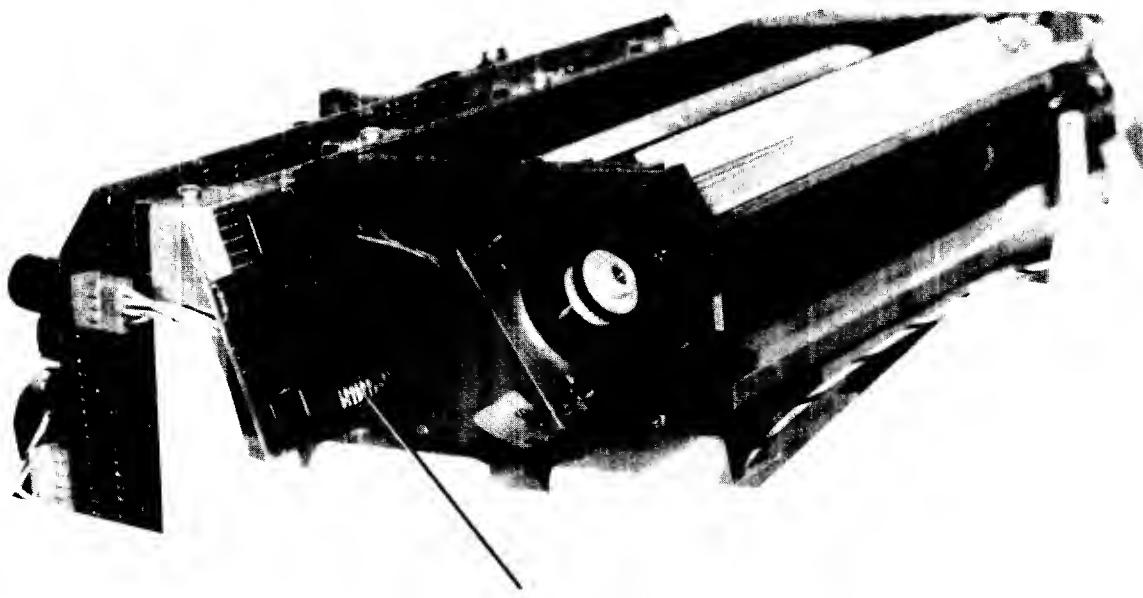
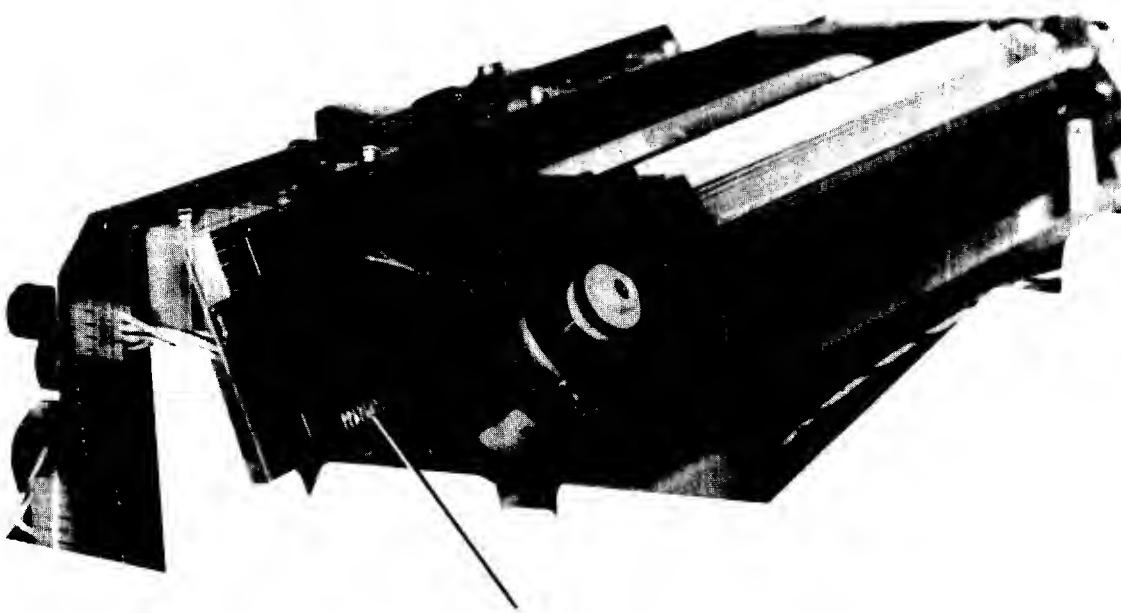

Figure 3-3 Printer PCA Strap Setting - when equipped with
Figure 3-4 Printer PCA Strap Setting - when equipped with
3. Check, and if necessary, change the strap settings. Refer to figure 3-3 or figure 3-4 as applicable.